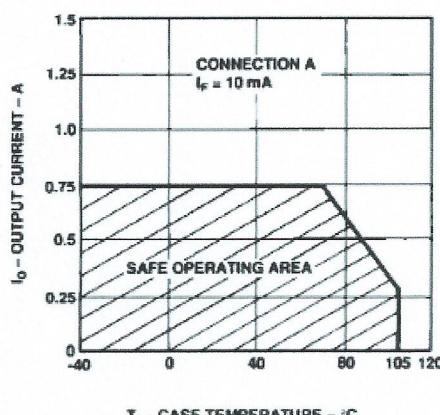
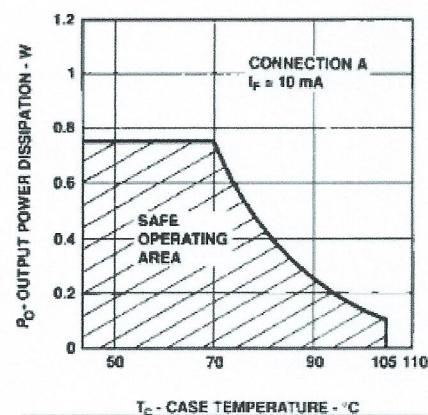

Figure 3B. Maximum Average Output Current Rating vs. Case Temperature.
Figure 4. Output Power Derating vs. Case Temperature.
2. For derating, see Figure 4. The output power P_O derating curve is obtained when the part is handling the maximum average output current I_O as shown in Figure 3.
Derating curves are shown in Figures 3 and 4. Figure 3 specifies the maximum average output current allowable for a given ambient or case temperature. Figure 4 specifies the output power dissipation allowable for a given case temperature. Above a case temperature of 93°C, the maximum allowable output current and power dissipation are
Staying within the safe area assures that the steady state junction temperatures remain less than 125°C. As an example, for a case temperature of 100°C, Figure 4 shows that the output power dissipation should be limited to less than 0.5 watts. A check with Figure 3B shows that the output current should be limited to less than 150 mA. This yields an R_{SS} of 22 Ω.